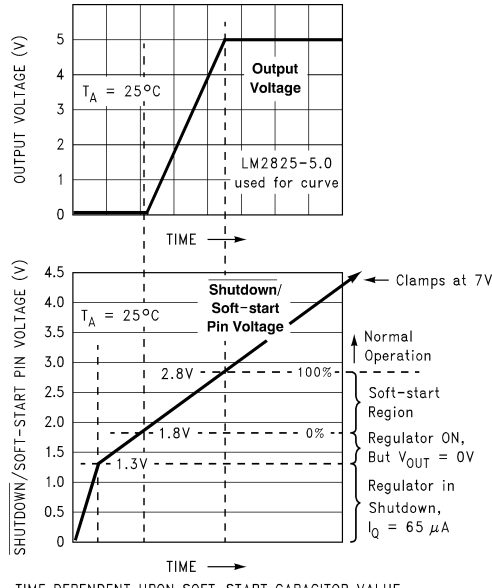

FIGURE 10. Soft-Start and Output Voltage Waveforms
A capacitor on the  $\overline{SD/SS}$  pin provides the regulator with a Soft-start feature (slow start-up). When the DC input voltage is first applied to the regulator, or when the Shutdown/Soft-start pin is allowed to go high, a constant current (approximately 5  $\mu\text{A}$ ) begins charging this capacitor. As the capacitor voltage rises, the regulator goes through four operating regions (see the bottom curve in Figure 10).
- 3. Soft-start Region.** When the  $\overline{SD/SS}$  pin voltage is between 1.8V and 2.8V (@ 25°C), the regulator is in a Soft-start condition. The output (pin 4–8) duty cycle initially starts out very low, with narrow pulses and gradually get wider as the capacitor  $\overline{SD/SS}$  pin ramps up towards 2.8V. As the duty cycle increases, the output voltage also increases at a controlled ramp up. See the top curve in Figure 10. The input supply current requirement also starts out at a low level for the narrow pulses and ramp up in a controlled manner. This is a very useful feature in some switcher topologies that require large startup currents which can load down the input power supply.
Note that the lower curve shown in Figure 10 shows the Soft-start region from 0% to 100%. This is not the duty cycle percentage, but the output voltage percentage. Also, the Soft-start voltage range has a negative temperature coefficient associated with it.